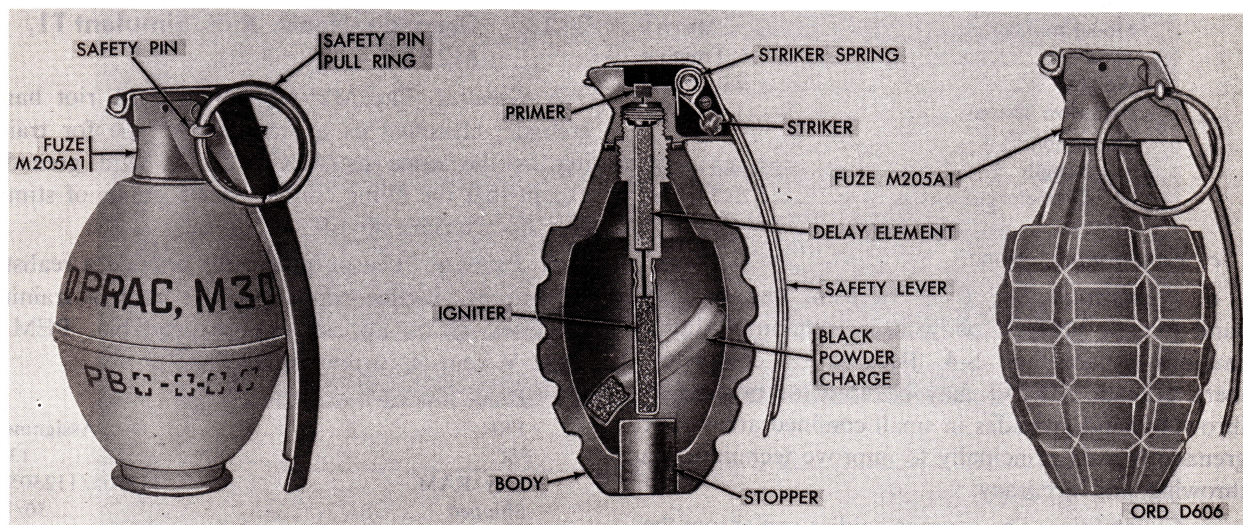

Figure 2-22. Grenade, hand: practice, M30, with fuze, M205A1.
- (1) *General.* Practice hand grenade M30 (fig. 2-22) is similar in external appearance to fragmentation hand grenades M26-series. Practice grenade M30 consists of three basic parts: a body, a low explosive charge, and a delay igniting fuze. The body is made of cast iron and has the same external appearance as that of fragmentation grenades M26-series. Internal con-